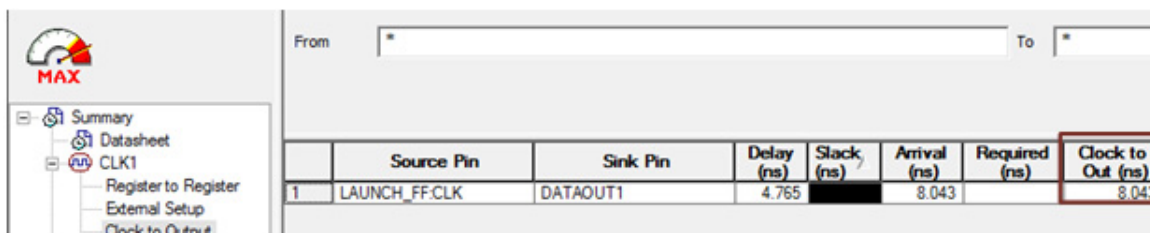

Figure 16 • SmartTime Showing Clock-to-Output Delay for Maximum Delay Analysis
2. In Maximum Delay Analysis view, examine the Clock-to-Output path set to get $T_{max,worst}(datapath)$, as shown in Figure 16.